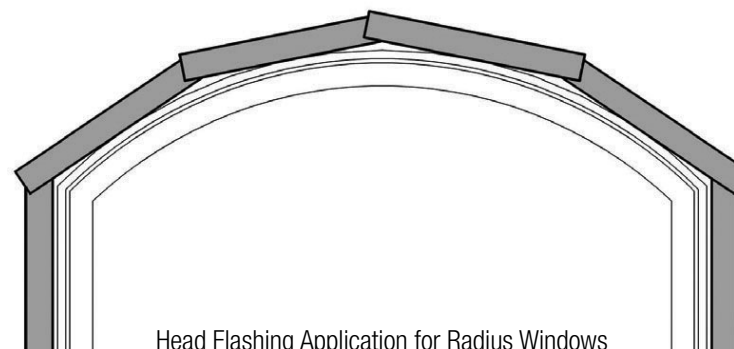
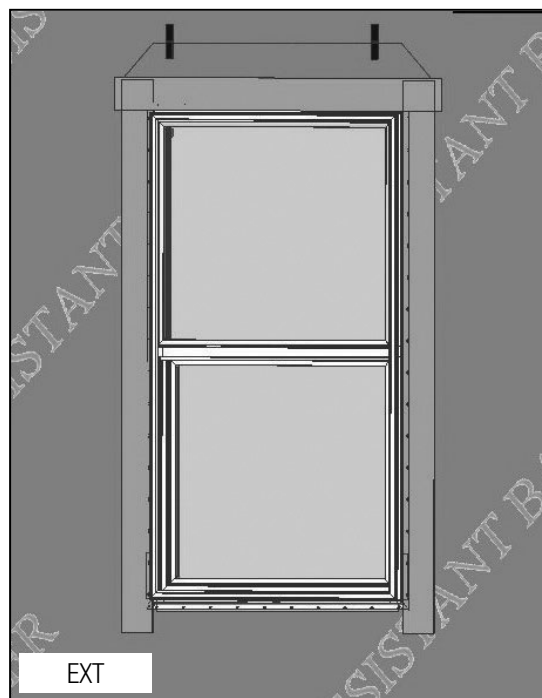

FIG. 17
FIG. 16
- C) Cut and apply head flashing. The head flashing should run slightly past the edge of the side flashing as shown in Fig. 16. For radius top windows, refer to Fig 17.